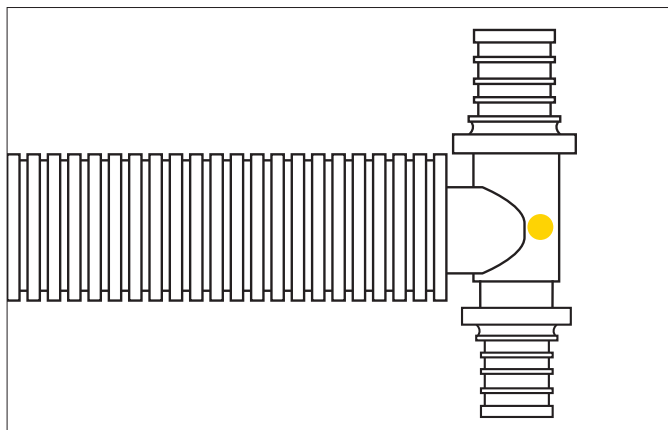

Fig. A2-10 Pushing RAUGUARD all the way against the fitting
- Feed the smaller RAUGUARD completely onto the carrier pipe; make sure the far end fully covers the compression sleeve as shown in Figure A2-10.